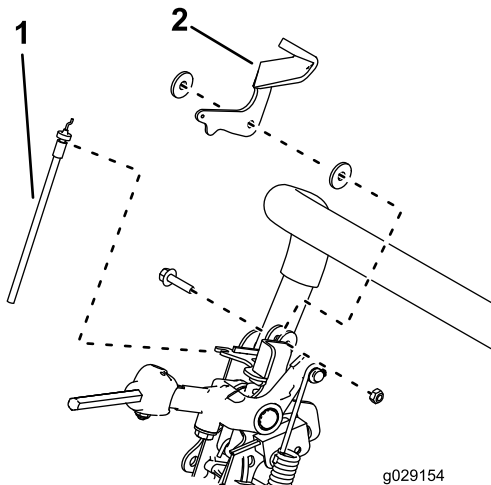

Figure 4
8. Remove and discard the throttle-control cable (Figure 4).
9. Remove and discard the throttle lever, but retain the mounting hardware (Figure 4).